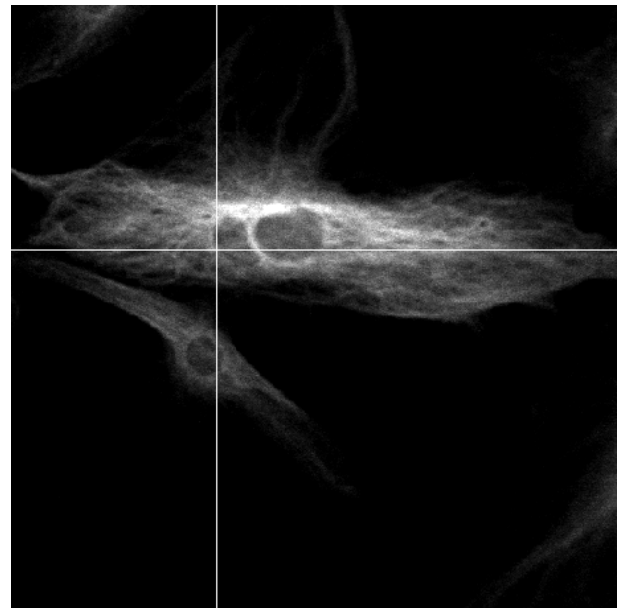

Fig. 9-141 Manual stage positioning with the ConfoCor 2
- ☞ If you want to stay at the optical axis, you must position your measurement positions at the position of the laser beam. With no offset of the scan area defined, this will be the center of the image in the ConfoCor 3 (Fig. 9-141), and an offset position in the ConfoCor 2 (see Fig. 9-141). Note that the offset coordinates will only be valid if the same zoom and pixel size.